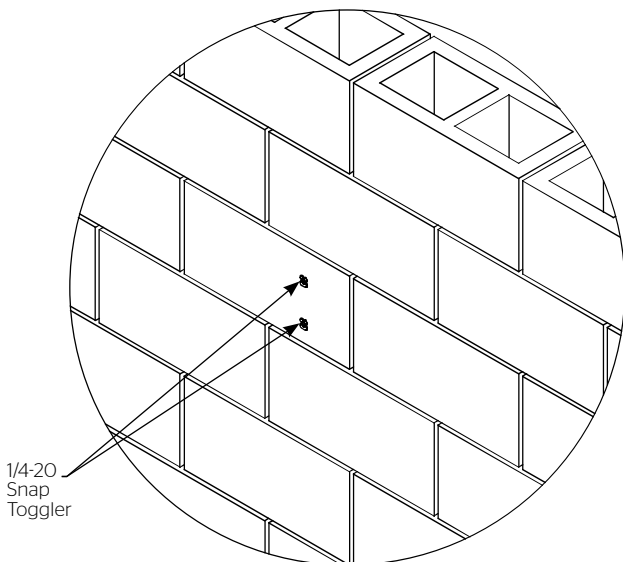

Figure 4
4. Measure the overall length of your screen case and divide by two. This will give you the distance from your center mark to each bracket. Drill a 1/2" hole through hollow part of cinder block. (See Figure 4)
5. Measure down 3-1/2" (88.90mm) from previous drilled hole and drill another 1/2" hole. (See Figure 4)
6. Insert two 1/4-20 Snap Toggles (not supplied) into concrete wall. (See Figure 4)